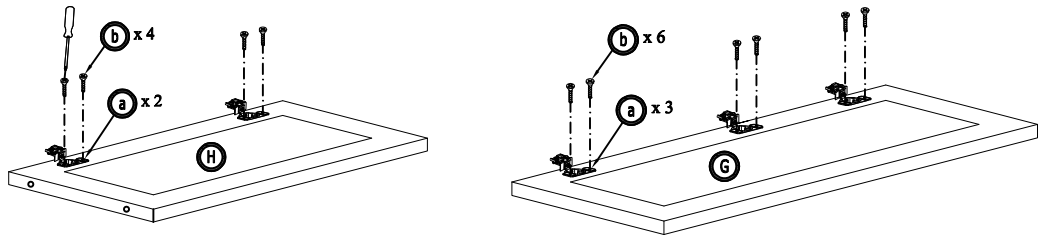

Figure 8
9. Assemble door with hinges to left and right of cabinet frame by 14 screw 4/5" (Figure 8)